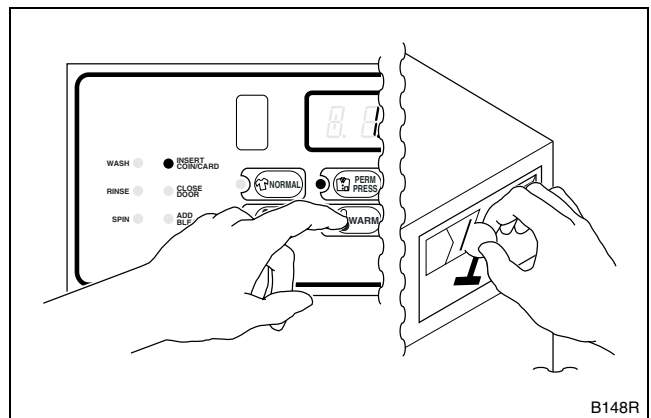

Figure 12
5. Select cycle and temperature. Refer to *Figure 12*.
6. **For machines equipped with a coin meter:** Insert coins. Refer to *Figure 12*.